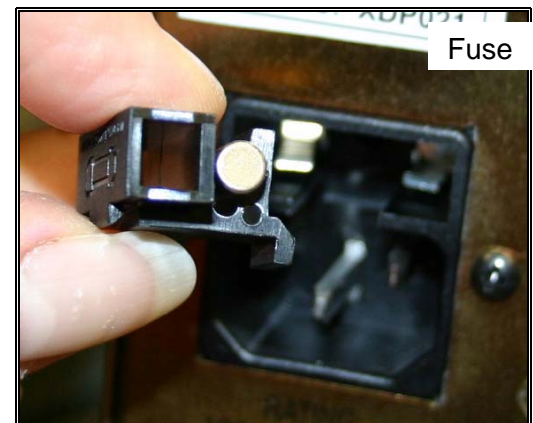

Figure 4. Fuse Location on Rear Panel
- Using an ohm meter, verify that the rear panel fuse, shown in Figure 4, is still good. If the reading on the ohm meter is zero (0) ohms, then the fuse has blown and needs to be replaced.